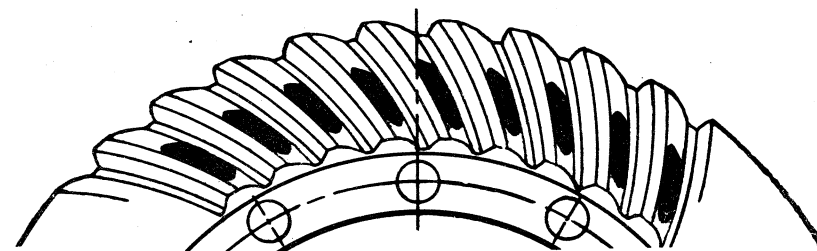
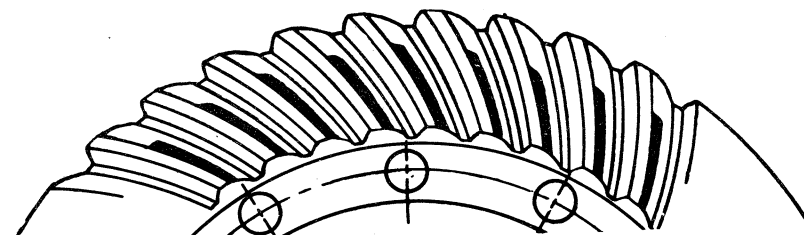
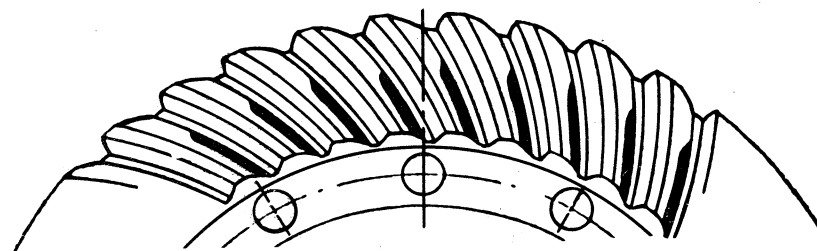
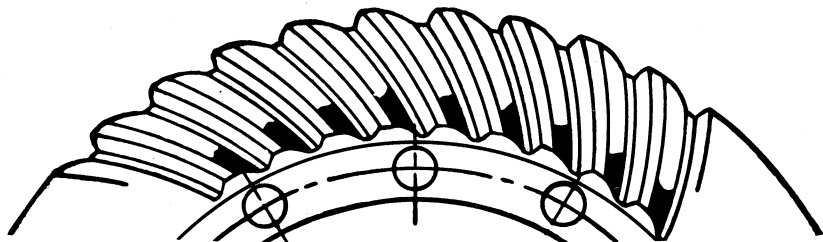

FIGURE 74—Correct tooth contact.
FIGURE 75—High, narrow tooth contact.
FIGURE 76—Low, narrow contact.
FIGURE 77—Short toe contact.
(29) Adjustment of bevel gearing in regard to correct tooth contact.—(a) To obtain the maximum life from bevel gearing, it is necessary that the gears be adjusted correctly in regard to tooth contact. If this contact is not correct excessive loads will be concentrated on small areas of the teeth and breakage or rapid wear will result. Figures 74, 75, 76, 77 and 78 shown in this paragraph illustrate the various possible contacts and an explanation of each is given. Figure 79 is included to show all bearing surfaces and to contrast the undesirable tooth contacts with the correct tooth bearing shown in figure 74.
1. Figure 74 shows what is considered a desirable tooth contact. Area of contact starting at toe and extending about 80 percent of tooth length
2. Figure 75 shows a high narrow contact on gear tooth which is not desirable. If gears are allowed to operate with an adjustment of this kind, noise, galling, and rolling over at the top edges of the teeth will result. To obtain correct contact move pinion in toward gear enough to lower contact area to its proper place. This adjustment will decrease backlash between pinion and gear teeth, which can be corrected by moving gear away from pinion. Backlash should be approximately .005-in. to .010-in. Several adjustments of both pinion and gear may be necessary before correct contact and backlash are obtained. For correct contact see figure 74.
3. Figure 76 shows a long narrow contact on gear tooth, which is not desirable. If gears are allowed to operate with an adjustment of this kind, galling, noise, and grooving of teeth will result. To obtain correct contact move pinion out from gear a sufficient amount to move contact to its proper place on tooth. To maintain correct backlash gear should be moved in toward pinion. For correct contact see figure 74.
4. Figure 77 shows a short toe contact which is not desirable. If gears are allowed to operate with an adjustment of this kind, chipping at tooth edges and excessive wear due to small contact area will result. To obtain correct contact move gear away from pinion. This will increase the lengthwise contact, moving contact toward heel of tooth. Correct backlash can be obtained by moving pinion in toward gear. For correct tooth contact see figure 74.
5. Figure 78 shows a short heel tooth contact which is not desirable. If gears are allowed to operate with an adjustment of this kind, chipping, excessive wear and noise will result. To obtain correct contact the gear must be moved toward pinion to increase the lengthwise contact and move contact area toward toe. Correct backlash can be obtained by moving pinion away from gear. For correct tooth contact see figure 74.
SEE FIGURE 74
SEE FIGURE 75
SEE FIGURE 76
SEE FIGURE 77